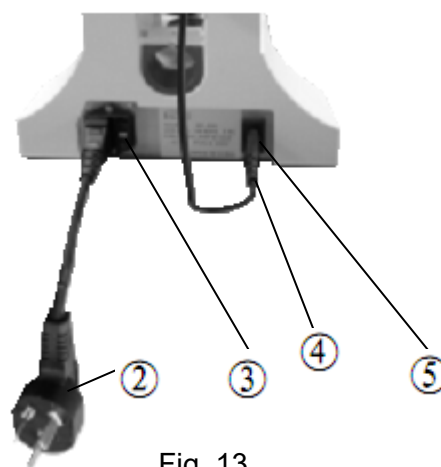

Fig .13
2. Connect the plug④ of the illumination column firmly to its jack⑤ on the rear of the microscope.(Fig.13)
3. Connect one end of the power cord ② into its connector ③ on the rear of the microscope.(Fig.13)